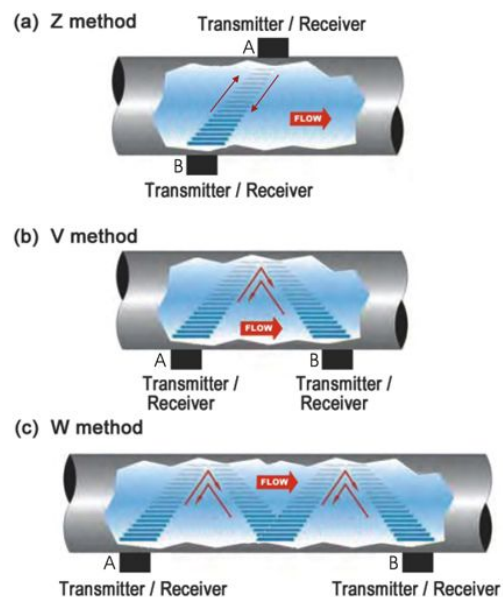

Figure 1
DMTF transit time flow meter utilizes two transducers that function as both ultrasonic transmitters and receivers. The transducers are clamped on the outside of a closed pipe at a specific distance from each other. The transducers can be mounted in V-method in which case the ultra sound transverses the pipe twice, or W-method in which case the ultra sound transverses the pipe four times, or in Z-method in which case the transducers are mounted on opposite sides of the pipe and the ultra sound transverses the pipe only once. The selection of mounting method depends on pipe and liquid characteristics. When the flow meter works, the two transducers transmits and receives ultrasonic signals amplified by multi beam which travels firstly downstream and then upstream (Figure 1). Because ultra sound travels faster downstream than upstream, there will be a difference of time of flight (Δt). When the flow is still, the time difference (Δt) is zero. Therefore, as long as we know the time of flight both downstream and upstream, we can work out the time difference, and then the flow velocity (V) and flow volume (Q) via the following formula.